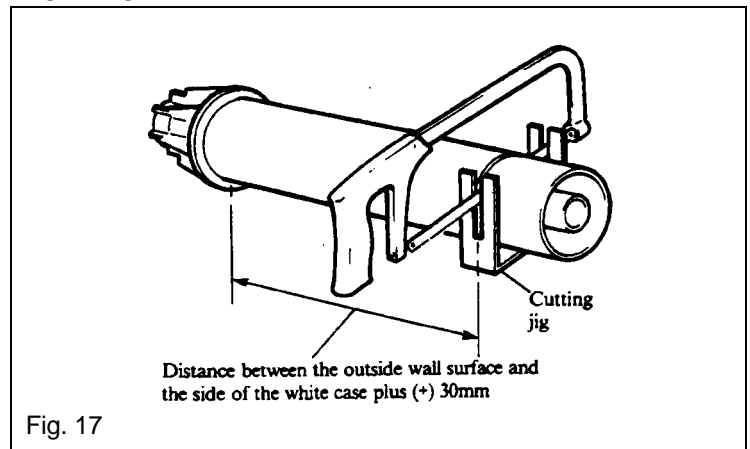

Fig. 17
Refer to Fig. 17.
2. With the cutting jig, supplied with the flue/terminal assembly, in position over the flue/terminal assembly as shown in Fig. 17, cut the tubes to the correct length.
5. With the cutting jig, supplied with the flue/terminal assembly, in position over the flue/terminal assembly as shown in Fig. 17, cut the tubes to the correct length.